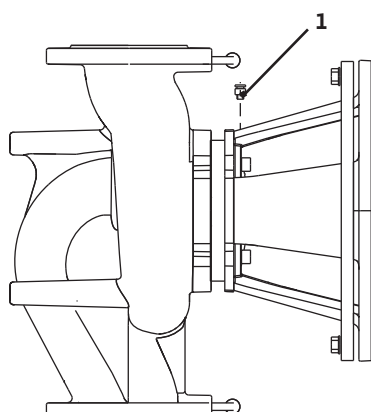

Fig. 36: Bleed valve
- Bleed the pumps by loosening the bleed valves (Fig. 36, Item 1). A dry run would destroy the mechanical seal of the pump. The differential pressure sensor may not be bled (danger of destruction).